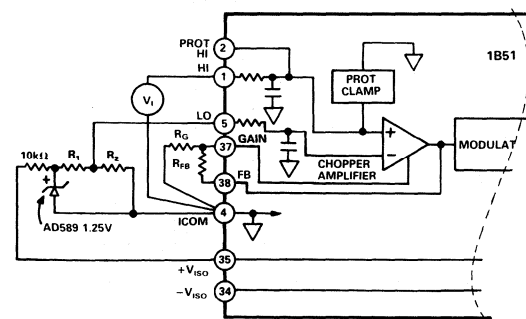

Figure 1. Input Gain Setting and Zero Suppression
The gain of the 1B51 is controlled on the input side by a pair of user provided resistors (see Figure 1). A feedback resistor of between  $10\text{k}\Omega$  and  $20\text{k}\Omega$  is required between the feedback pin (FB) and the gain pin. The gain setting resistor is connected between the gain pin and input side common (ICOM). The gain equation is
Since the 1B51 is a differential input device, true input referred zero suppression can be accomplished (see Figure 1). A voltage reference powered by the input side power supplies is applied to the LO terminal. Since the transfer function is